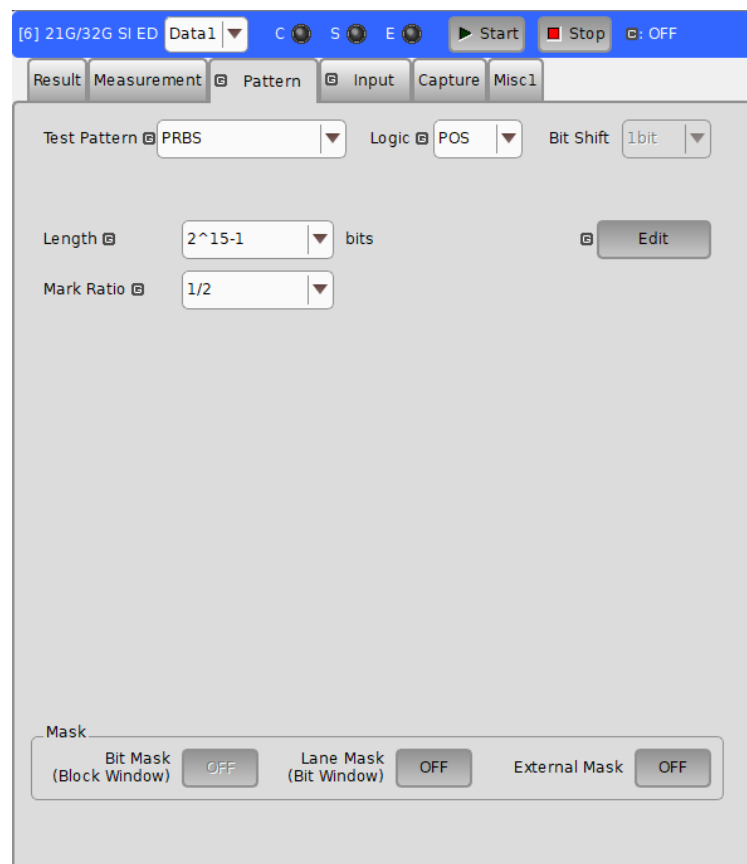

Figure 4.2.4.3-1 MU195040A Pattern Tab
**Pattern** tab is shown in Figure 4.2.4.3-1.